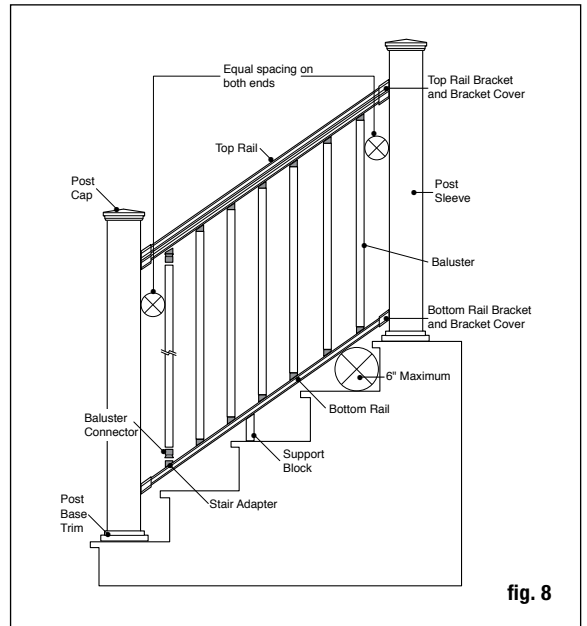
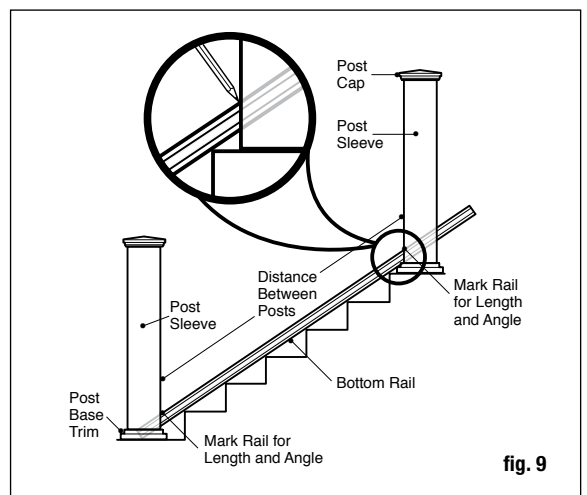

fig. 8
fig. 9
Step 6 Measure the distance between installed post sleeves to determine the length of the top and bottom rails. Place the bottom rail on the stair treads next to the posts and adjust so the distance between the first baluster hole and post is greater than 2-3/4" minimum or equal on both ends (fig. 8). Mark the rail to the proper length and angle. Cut the bottom rail. Cut the top rail to the same length and angle (fig. 9).
Step 8 Place the proper rail bracket covers and stair brackets on the ends of the bottom rail. Pay particular attention to the brackets being used as they differ based on top/bottom rail and up/down angle. Prop the bottom rail between the posts on the stair treads (fig. 9). You may need to place equal shims between two stair tread noses to elevate the bottom rail. Check for requirements in your area. Typically, a 6" sphere may not be allowed to pass through the triangle formed by the bottom rail, tread and riser (fig. 8). Center the stair bracket on the post. Using the stair bracket as a guide, mark the screw positions on the post sleeve and rail on both ends. Pre-drill 1/8" pilot holes through the post sleeve and rail. Attach the stair bracket to the post sleeve using the #8-15 x 2" - #2 square drive flat head screws and then attach stair bracket to rail using #8-16 x 3/4" - #1 square drive wafer head self-drilling screws.